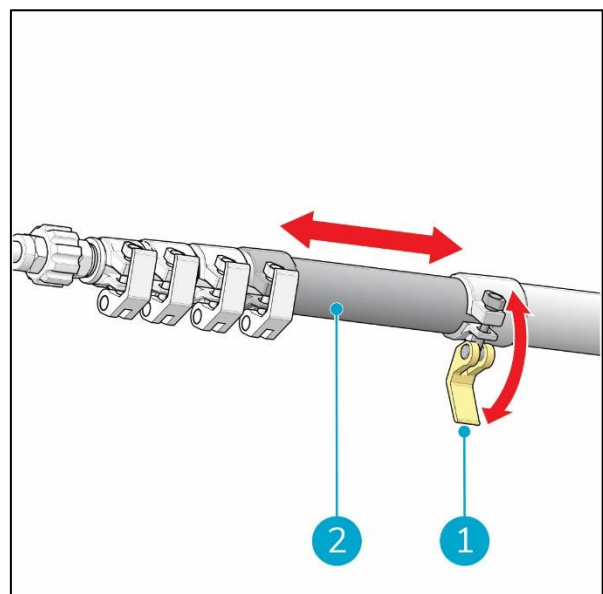

Figure 18
1. Unlock the yellow clamp (Figure 18, pos 1) and then pull the tube out (Figure 18, pos 2).
2. Lock the yellow clamp (Figure 18, pos 1) to fixate the tube, check that the tube cannot move anymore.